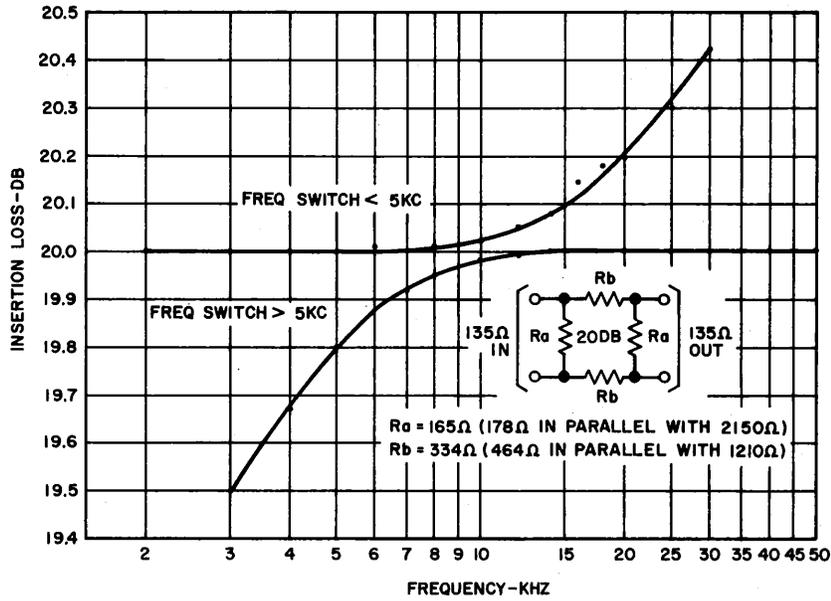

Fig. 6—Response of 3550A Test Set
7.01 Frequency Response Measurement of 3550A Test Set: The Hewlett-Packard 3550A test set contains two input transformers, one for measuring frequencies of 5 kHz or less and the other for measuring frequencies above 5 kHz. A **FREQ** switch on the 353A patch panel of the 3550A test set should be set to the <5KC (less than 5 kHz) or >5KC (greater than 5 kHz) position, depending upon the input signal to be measured. The **FREQ** switch connects the input signal to the proper transformer. However, response tests of several 3550A test sets show that the crossover point for the use of one transformer or the other is more closely centered at 10 kHz rather than 5 kHz. The crossover point can be seen in Fig. 6, which shows the two response curves. The first curve was made with the input frequency varied over a range of from 2 through 30 kHz with the **FREQ** switch in the <5KC position. The second curve was made with the input varied from 3 through 50 kHz with the **FREQ** switch in the >5KC position. The curves were developed by measuring the insertion loss of a 135-ohm, 20-dB balanced pad, which is also shown in Fig. 6.